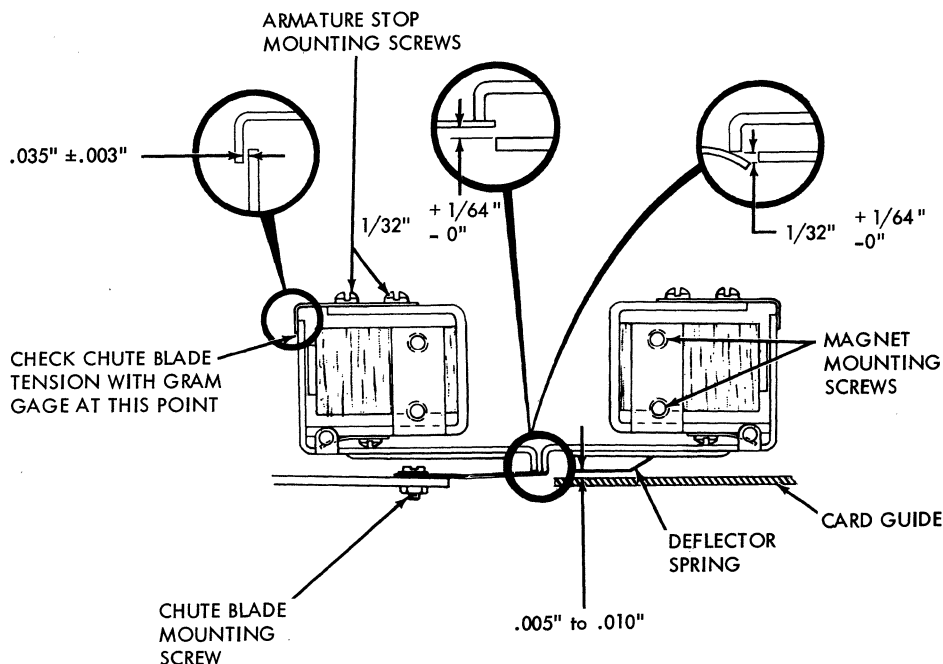

Figure 3-37. Chute Blade and Select Magnet Adjustments
1. Check for fretting corrosion or rust, and excessive wear at select magnet armature pivot. See Figure 3-37.
3. With pocket selector magnet armatures attracted, adjust each armature for $.035" \pm .003"$ clearance between upper part of armature and stop. See Figure 3-37.
4. Adjust selector magnet assembly (by means of the mounting screws) to position the chute blades $1/32" + 1/64" - 0$ above card line when the magnets are not energized, and $1/32" + 1/64" - 0$ below the card line when the magnets are energized. See Figure 3-37.
5. Adjust chute blade tension so that a force of 150 to 350 grams, applied to the 2 or 8 selector magnet armature at a point just under armature backstop, holds the armature fully attracted. A force of 75 to 200 grams should hold select magnet 1 or 4 armatures fully attracted. See Figure 3-37.
7. Position selector magnet deflector spring for .005" to .010" clearance above lower card guide. See Figure 3-37.